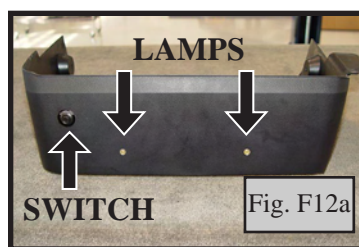

Fig. F12a
1. Using photos locate where Lamps are to be placed . (Fig. F12ab )